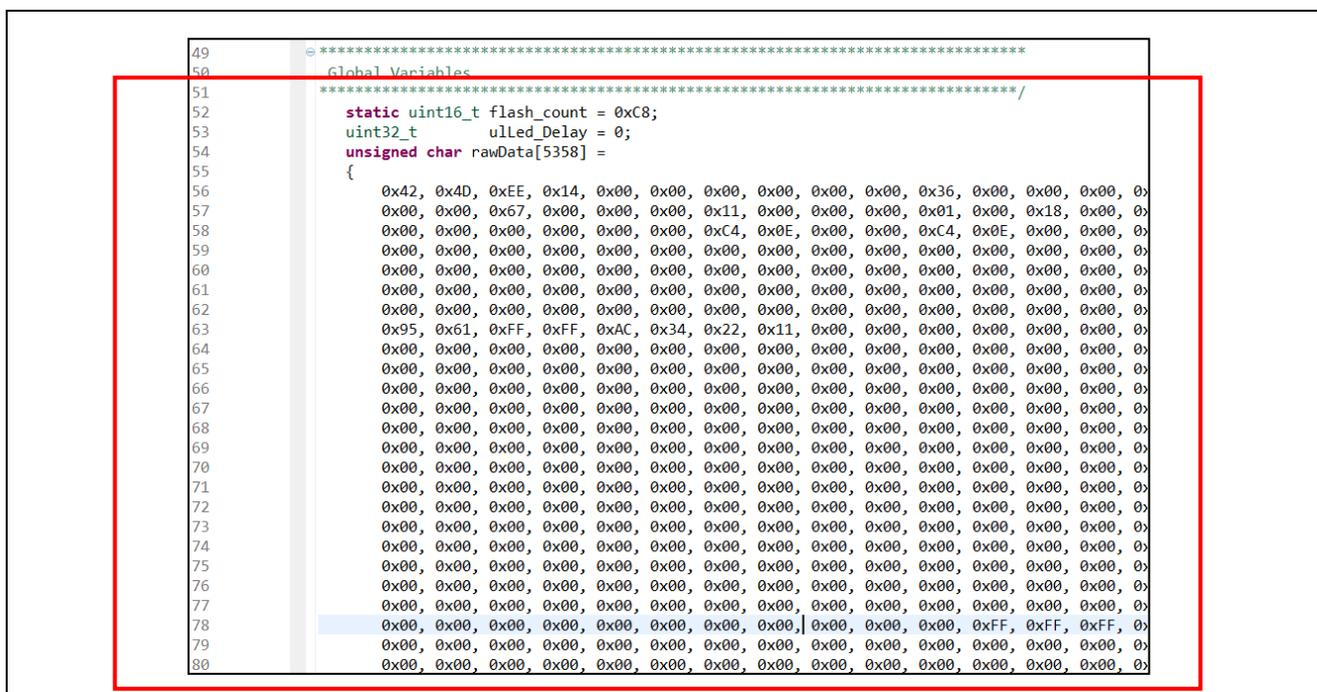

Figure 2 Assign Global Variable in “flashled.c”
- 3) Copy array data "rawData[5358]" to "flashled.c" (as shown in Figure 2). Then, assign array data "rawData" and local variable "uLled_Delay" as global variables in the "flashled.c".